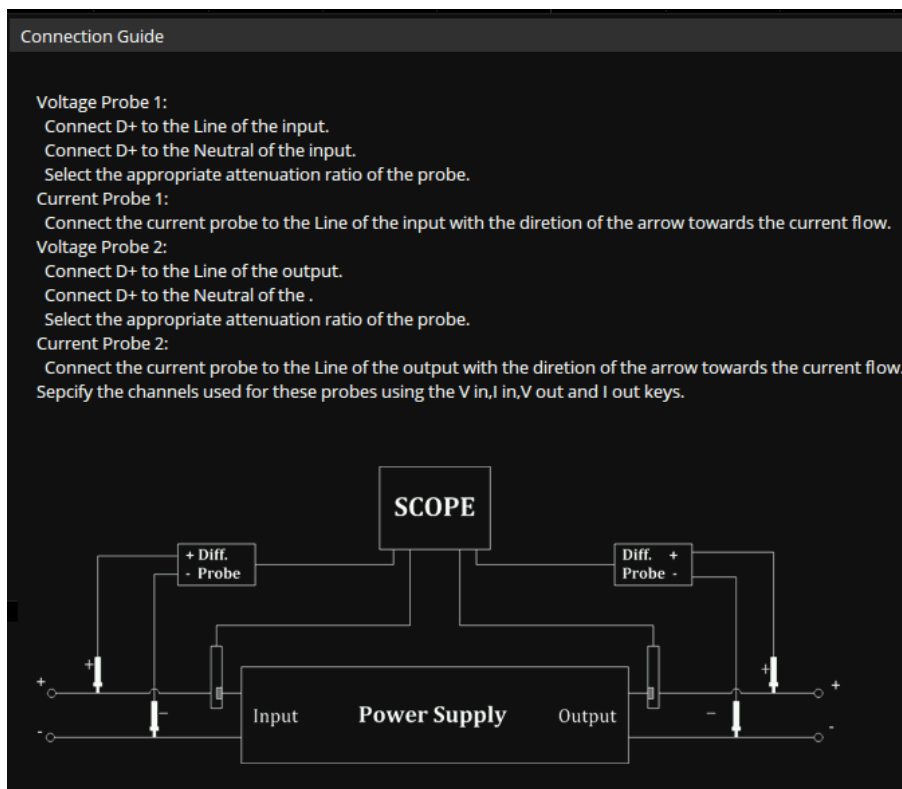

Figure 19.25 Connection Guide Power Efficiency
7. Touch **Connection Guide** to display a diagram illustrating the procedure setup. See figure 19.25